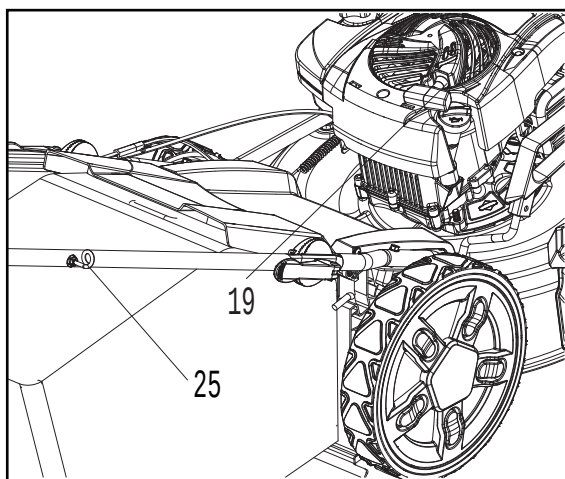

Fig. 11
2. Pull the recoil starter handle (31) lightly until you feel resistance then pull it rapidly. Do it repeatedly until the engine starts (Fig. 11).